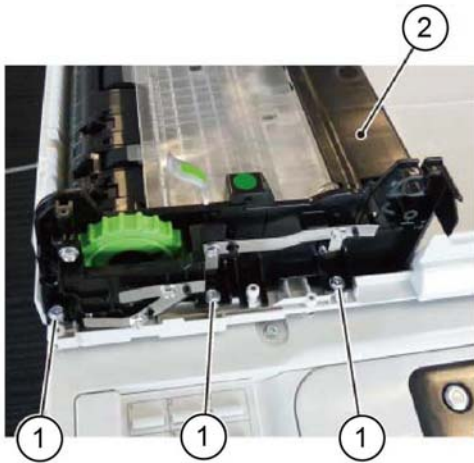

Figure 2 DADF feeder assembly removal
7. Remove the DADF feeder assembly, Figure 2:
- a. Remove three screws (1).
- b. Remove the DADF feeder assembly (2).